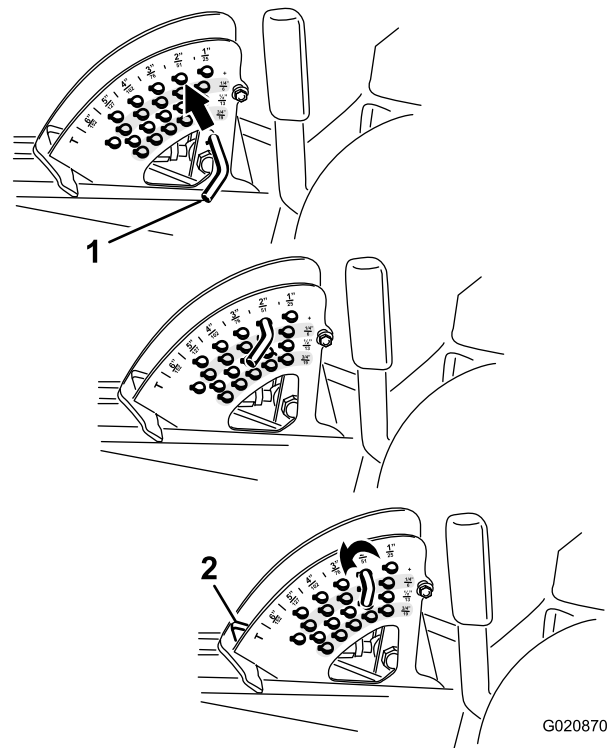

Figure 26
2. Rotate the stop pin until the roll pin in it lines up with the slots in the holes in the height-of-cut bracket and remove it (Figure 26).
3. Select a hole in the height-of-cut bracket corresponding to the height of cut desired, insert the pin, and rotate it down to lock it in place (Figure 26).
Note: There are 4 rows of hole positions (Figure 26). The top row gives you the height of cut listed above the pin. The second row down gives you the height listed plus 6 mm (1/4 inch). The third row down gives you the height listed plus 12 mm (1/2 inch). The bottom row gives you the height listed plus 18 mm (3/4 inch). For the 15.8 cm (6 inch) position, there is only 1 hole,